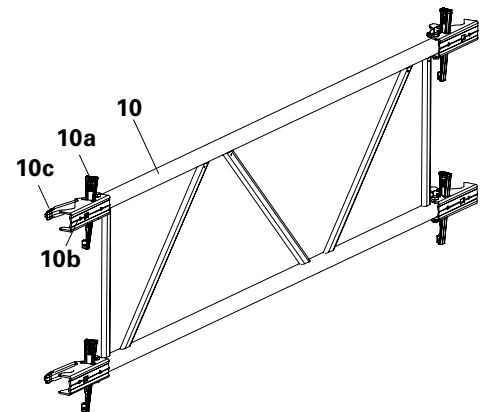

Fig. A1.05
1. Release wedge (10a) on the fasteners (10b) and open clamping jaws (10c). (Fig. A1.05)